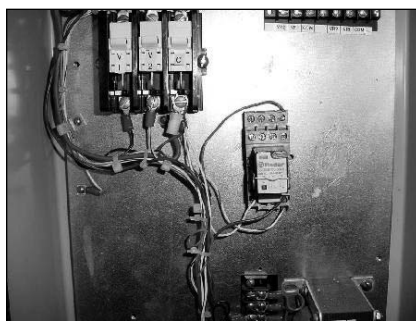

Figure 8.
- If using the screw, start the screw, press the socket on to the back panel until the adhesive tape is fastened to the back panel, and tighten the screw (See Figure 8).